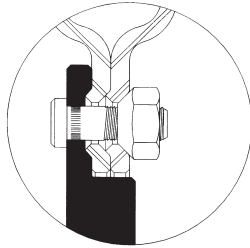

Figure 23
- ◆ With 90° cone nuts $\frac{9}{16}$ "-18, (X-1146,7) or $\frac{5}{8}$ "-18, (X-1148,9), use the tightening sequence shown with Figure 23. The nuts should be tightened to 175-200 ft.-lbs. torque (dry).